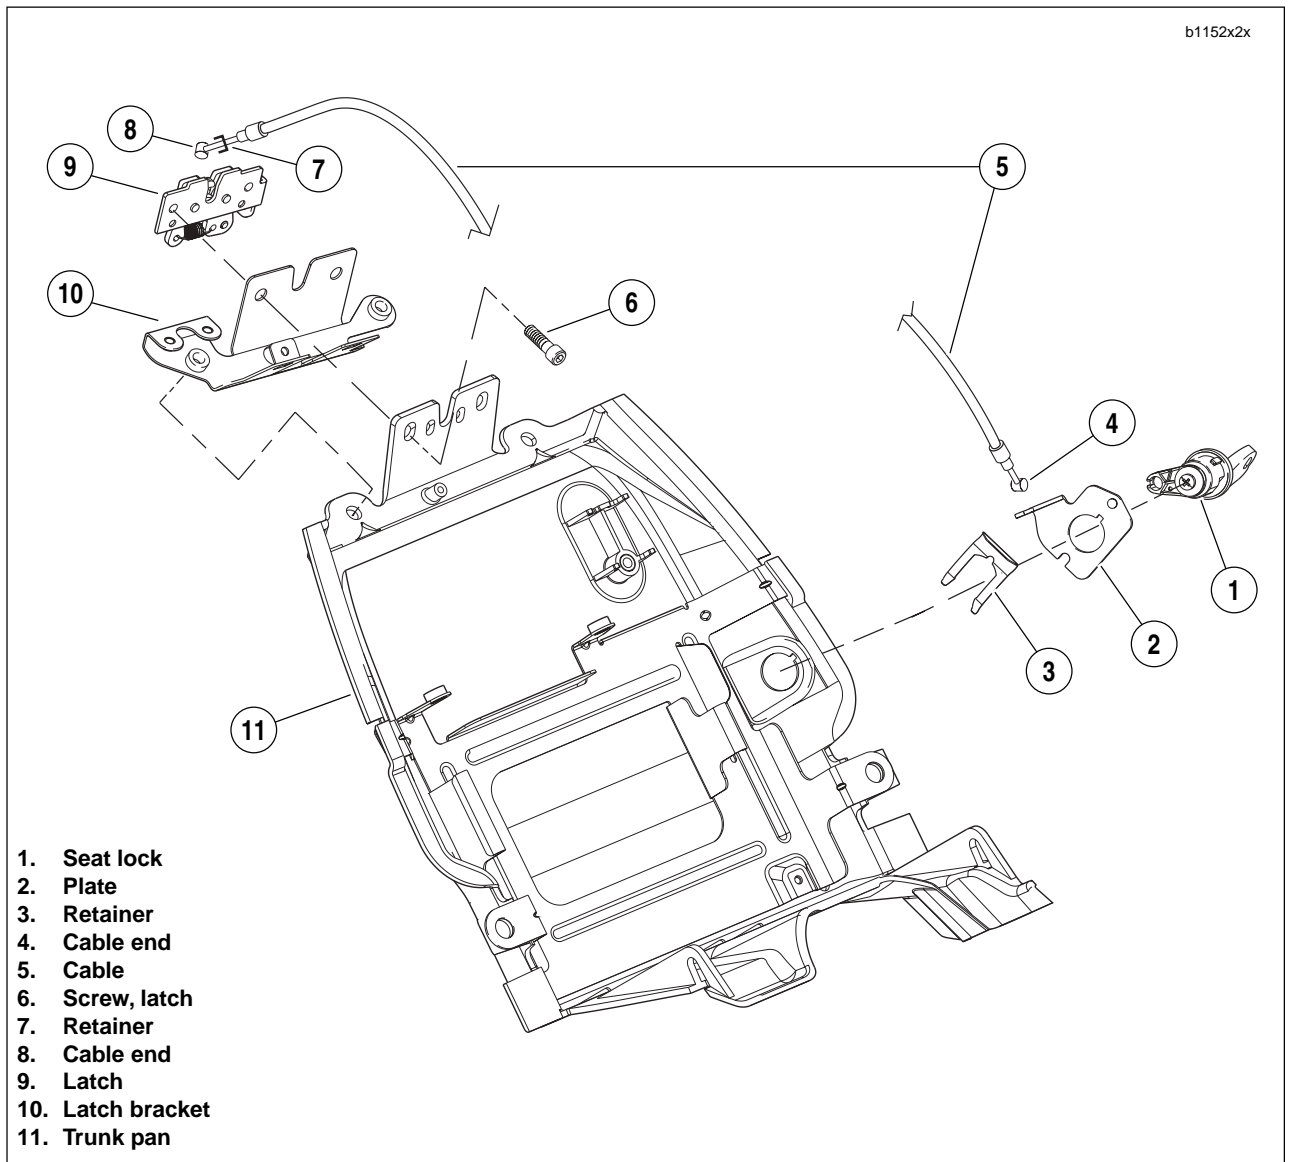

Figure 2-115. Seat Lock Assembly
3. See Figure 2-115. Disconnect seat lock cable:
- a. Remove latch (9) from latch bracket (10) by removing two fasteners (6).
- b. Slide retainer (7) away from cable end (8).
- c. Remove cable end (8) and cable (5) from latch.
- a. Remove seat lock retainer (3) from seat lock (1).
- b. Remove seat lock (1) from plate (2) and trunk pan (11).
1. See Figure 2-115. Install cable (5) into plate (2).
2. Install the seat lock (1) into trunk pan (11) and plate (2).